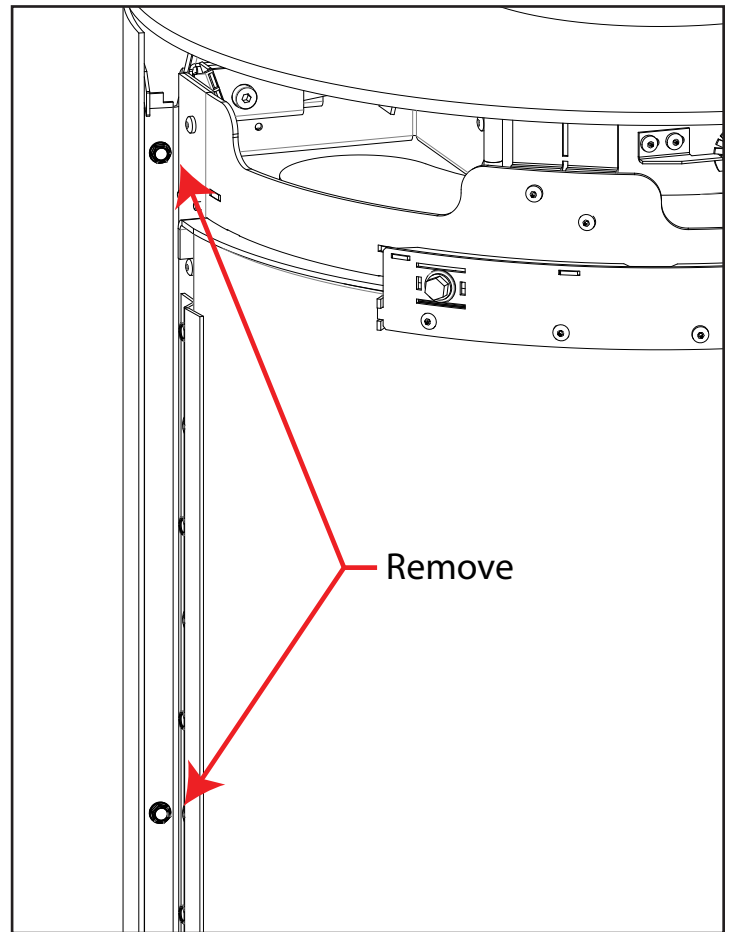
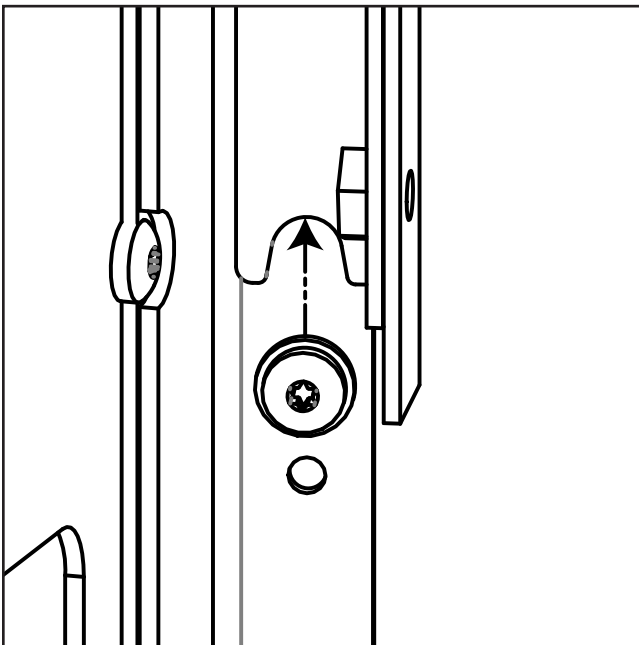

Figure 30: Rear Chassis Detachment
Figure 31: Rear Chassis Spacers
3. Position yourself in a way that allows you to support the chassis once detached. Remove the four mounting screws using a 5/16" socket (see Figure 30). There are two spacers at the bottom on the backside that support the rear chassis weight (see Figure 31). The chassis will pivot backwards once fully detached.